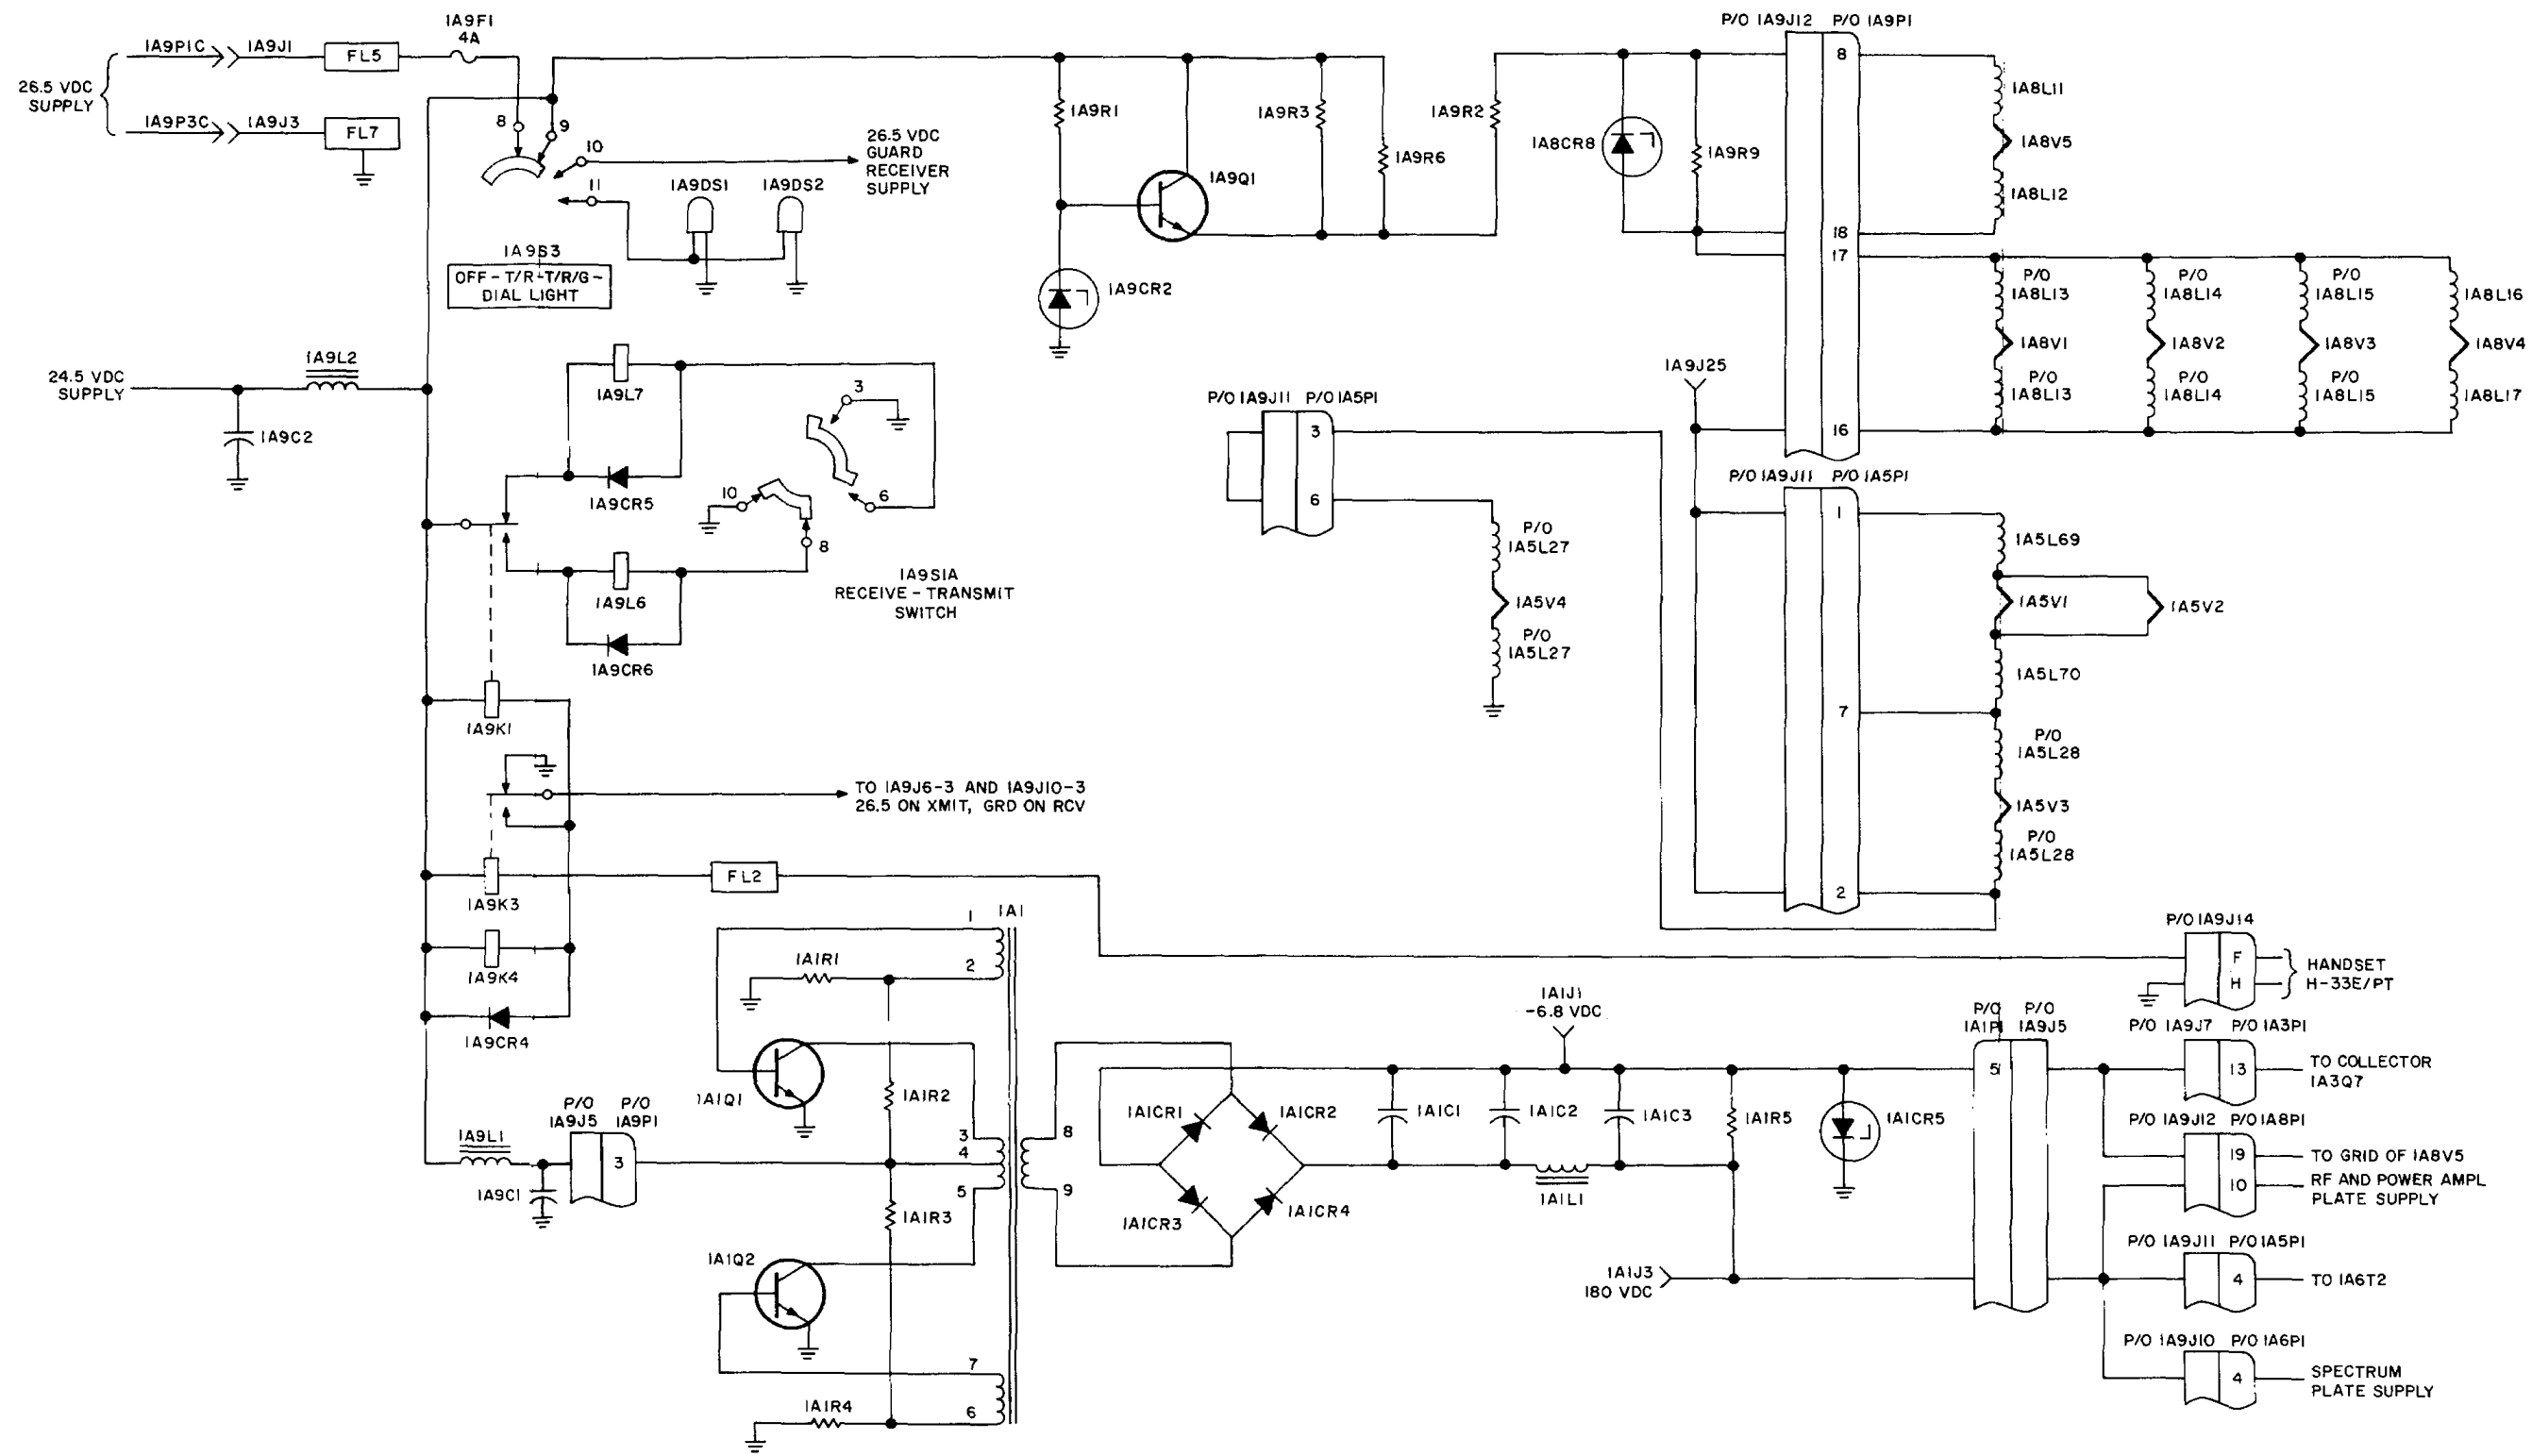

Figure 4-9. Radio Receiver-Transmitter RT-695A/PRC-41, Power Distribution, Simplified Schematic Diagram
(1) FUNCTIONAL DESCRIPTION. (Refer to figure 4-9.) - Power distribution circuits are the